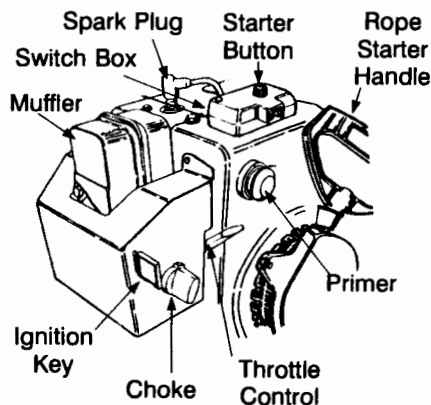

FIGURE 22
- Move throttle control up to FAST  position. Insert ignition key into slot. See Figure 22. Be certain it snaps into place. Do not turn key.
- Push primer button two or three times as instructed in the separate engine manual. See Figure 22.
- Push starter button to crank engine. See Figure 22.
- Grasp starter handle (see Figure 22) and pull rope out slowly, until it pulls slightly harder. Let rope rewind slowly.